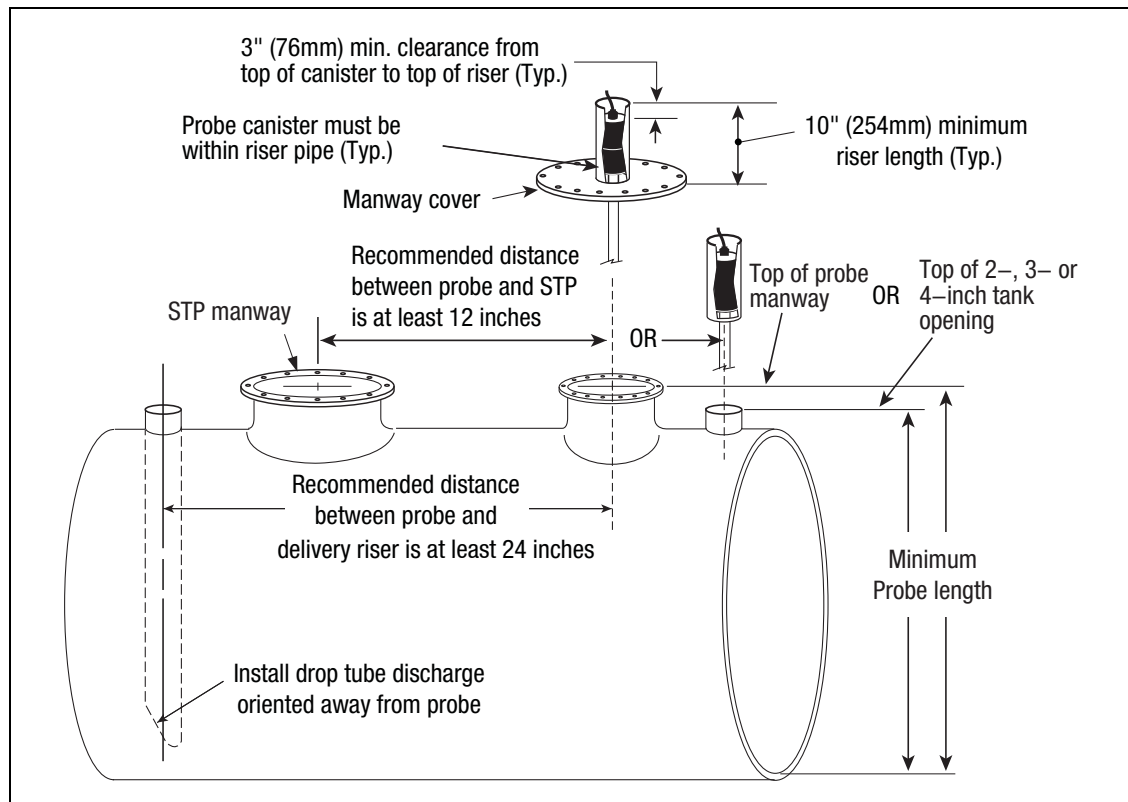

Figure 6. Determining The Minimum Mag Probe Length
1. Measure the distance from the bottom of the tank to the top of the probe manway, or the 2-, 3- or 4-inch tank opening- this is the minimum probe length (ref. Figure 6).